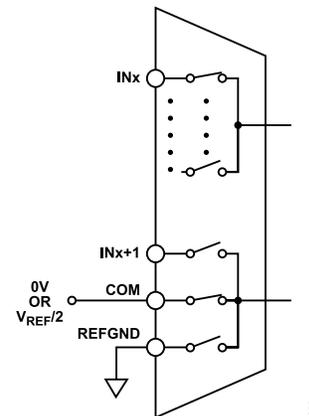

Figure 69. INx Paired with COM
- ▶ Figure 69, IN0 to IN7 paired with COM